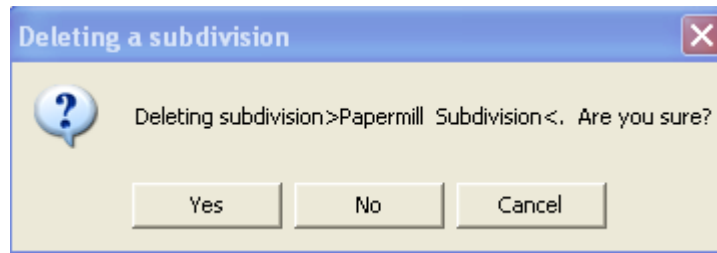

Figure 2-13
- As it is easier to do the deletions from the bottom up, click on entry 3 to select it, then click on the "Delete" button. You will be asked to confirm your actions (see Figure 2-13).